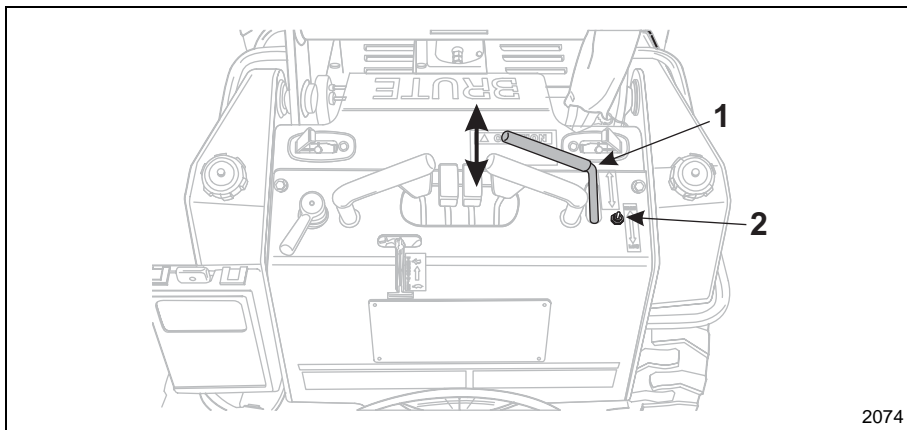

Figure 1-11 Auxiliary Attachment Controls
5. With your right hand, squeeze the AUXILIARY control lever (Item 1, Figure 1-11) towards the hand hold to activate the auger in the FORWARD (Clockwise) motion.
NOTE: To reverse the operation of the attachment, move the auxiliary control lever (Item 1, Figure 1-11) to the REVERSE (toward front of machine) position. The control lever will remain in the REVERSE position detent until it is moved to the NEUTRAL position.